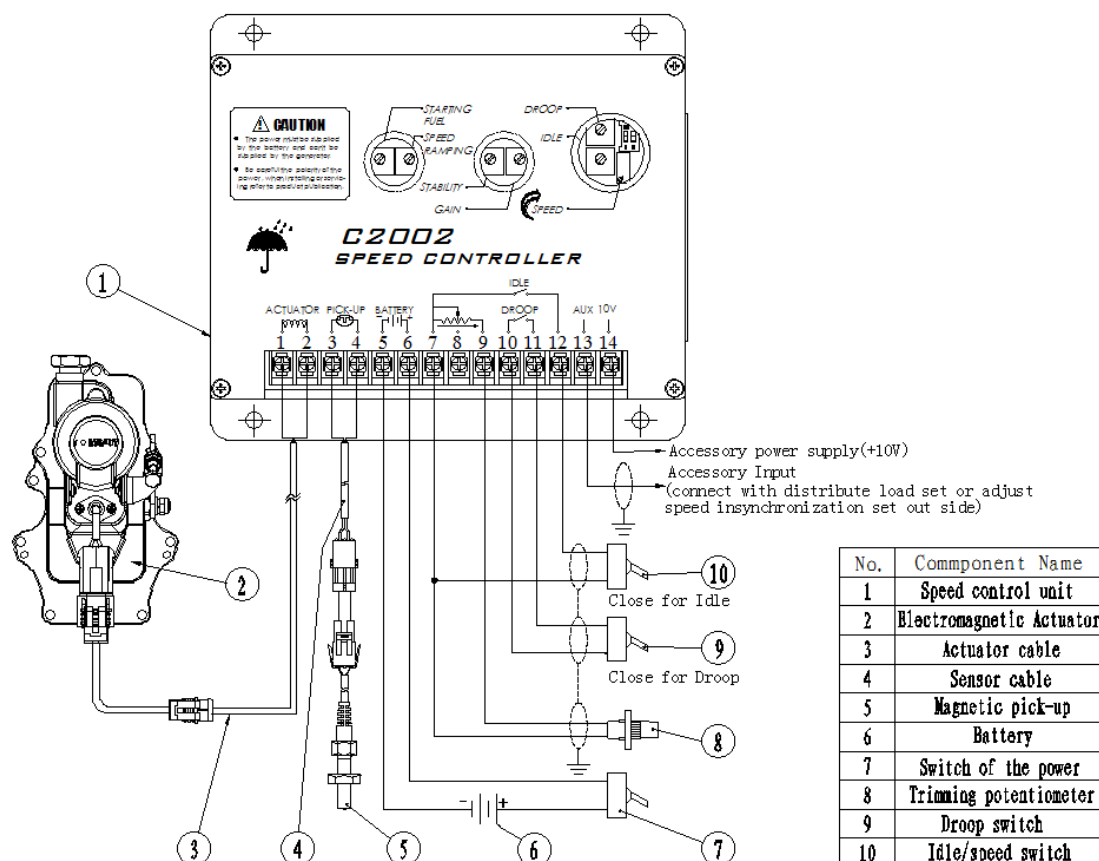

Figure 3.2 Connection diagram of the A07A-WL series electronic governor system
3.4.6 Through the above adjustments engine still unable to stability, it needs to be adjusted Red State Switch now, figure 3.2 four cases (a: RSW-1, RSW-3 = ON, RSW-2 = OFF; b: RSW-1, RSW-2 = OFF, RSW-3 = ON; c: RSW-1, RSW-2 = ON, RSW-3 = OFF; d: RSW-1, RSW-3 = OFF, RSW-2 = ON). After every adjusting Red State Switch go on the 3.4.4.1 and 3.4.4.2 adjusting procedure again. If it is still unable to stability, should inspect engine and fuel pump for service condition. And then, contact with manufacturer.